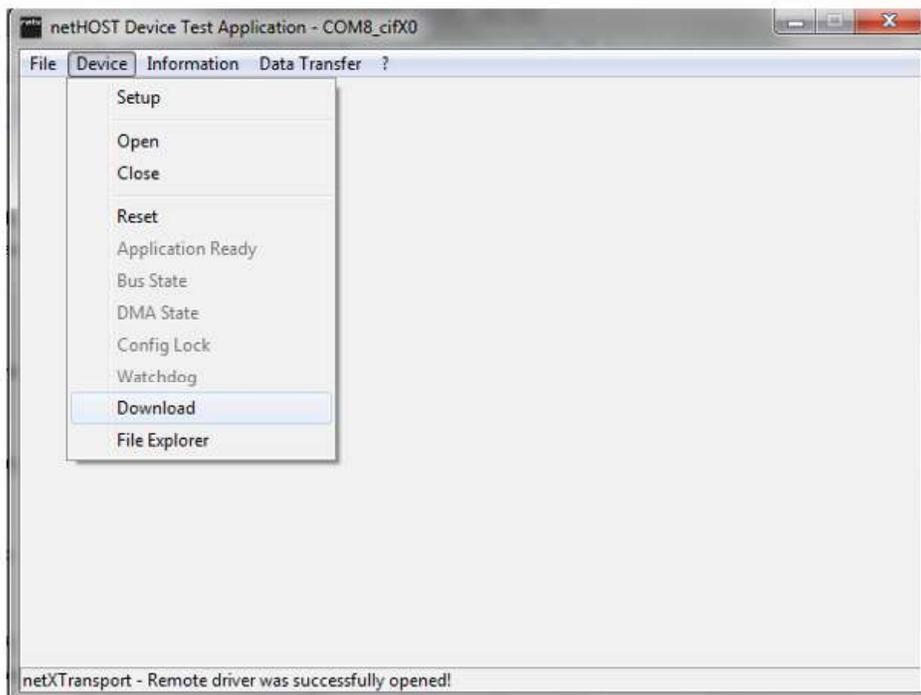

Figure 43: Download device [netHOST\_download\_1]
18. Click "Device" (on the top ribbon) and select "Download" on the pop-up (Figure 43, STMA-69241);